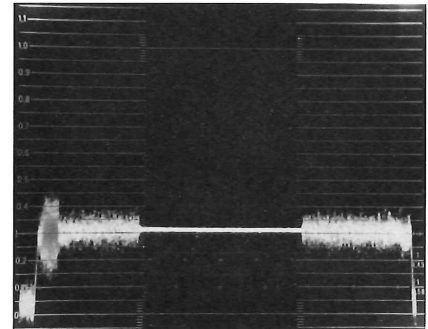

Figure 8-6. Match level with input signal.
7. Match the calibrated noise generator level to the incoming noise and read the noise directly from the dials. This is the S/N ratio (figure 8-6 and 8-7).
8. The signal-to-noise ratio as requested by the FCC in 376.605(9) is actually the